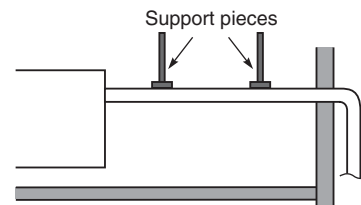

Fig. 1-102
- Do not apply force to the piping on the unit side when connecting the drain pipe. The pipe should not be allowed to hang unsupported from its connection to the unit. Fasten the pipe to a wall, frame, or other support as close to the unit as possible. (Fig. 1-102)